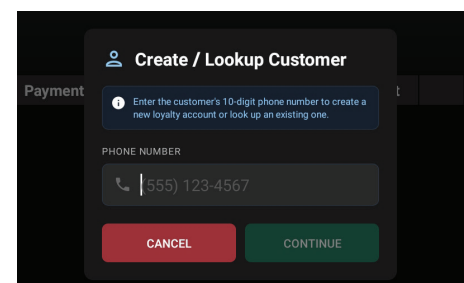

Figure 72b
2. Enter phone number or scan the customer's VIP/Loyalty account number (Figure 72b)